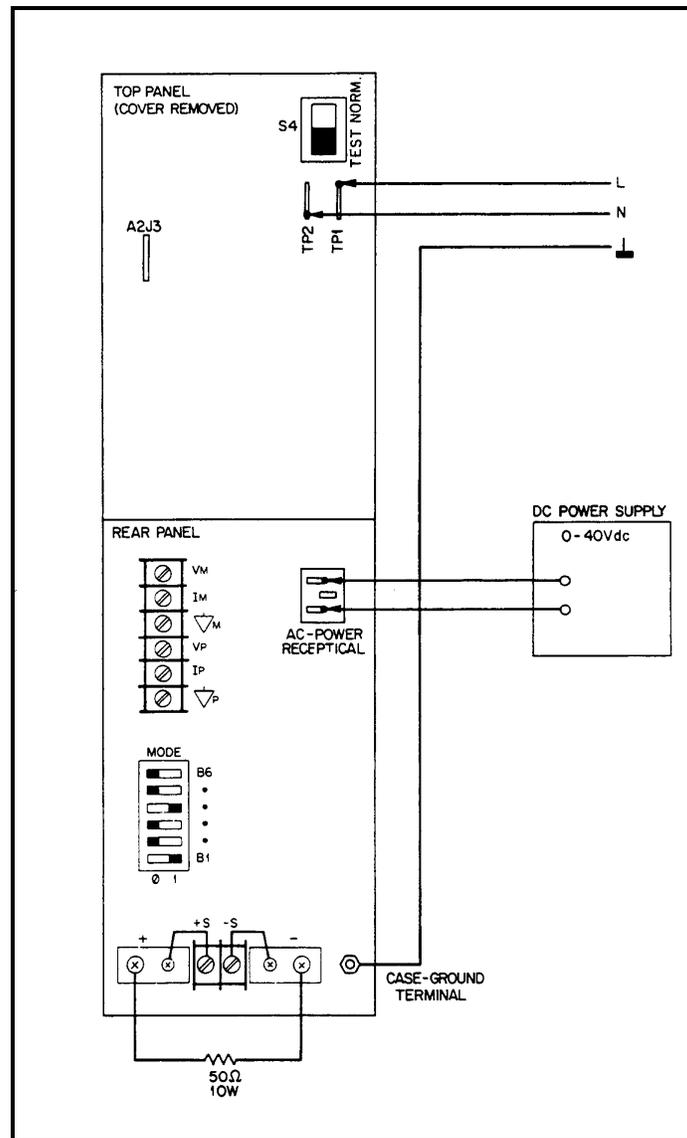

Figure 3-1. Main Troubleshooting Setup
Figure 3-1 shows the troubleshooting setup for troubleshooting all of the unit except the front-panel and initial no output failures (See page 31). The external power supply provides the unit's internal bus voltage. The ac mains cord connects to the unit's A1T3 bias transformer via an isolation transformer, thereby energizing the bias supplies, but it does not connect to the input rectifier and filter because that would create the bus voltage. With the external supply the unit operates as a dc-to-dc converter. The supply biases the A4Q3 and A4Q4 PFETs with a low voltage rather than the 320Vdc bus voltage. This protects the PFETs from failure from excess power dissipation if the power-limit comparator or the off-pulse circuitry are defective. It also reduces the possibility of electrical shock to the troubleshooter.
The troubleshooting setup of Figure 3-1 connects high ac mains voltage to the A1F2 fuse, the A1S2 Mains-Voltage Select Switch, the fan and printed-circuit traces at the left edge of the A1 main board. Be extremely careful when working on the unit with the protective inside cover removed to avoid touching the ac mains voltage.
- e. Complete the setup of Figure 3-1 by attaching an ac mains cord to test points TP1 (L, black wire) and TP2 (N, white wire) and connect the green ground wire to the unit's case ground terminal or a suitably grounded cabinet screw. TP1 and TP2 are accessible through the cutout on the left side of the unit and are at the left edge of the A1 main board.